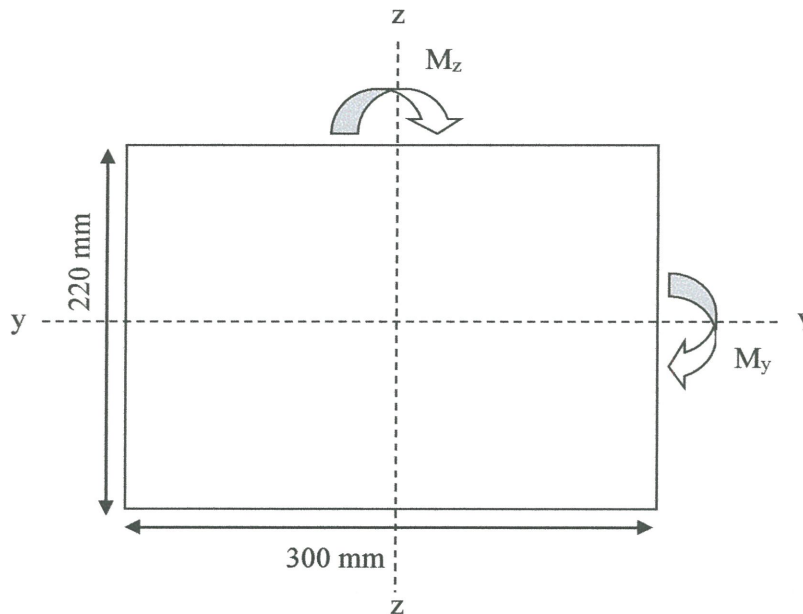

FIGURE Q4: Cross-section of a rectangular braced column
- (b) Figure Q4 shows a cross-section of a rectangular braced column of 220 mm X 300 mm. The column is classified as short column and subjected to ultimate load of 1250 kN. Given bending moments of 55 kNm and 30 kNm about major and minor axes respectively. Use the characteristic strength of concrete, $f_{ck} = 25$ N/mm², the characteristic strength of steel, $f_{yk} = 500$ N/mm², $C_{nom} = 30$ mm, the effective length = 4.2 m, $\phi_{link} = 6$ mm and $\phi_{bar} = 20$ mm.